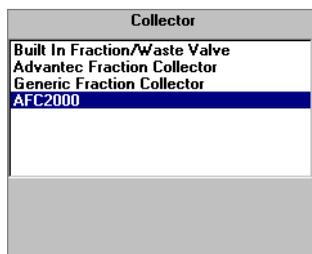

Figure 3-6 Configuring as an Integrated Fraction Collector
2. In the Collector section of the Configuration dialog box, (Figure 3-6) select **AFC 2000** from the list box.